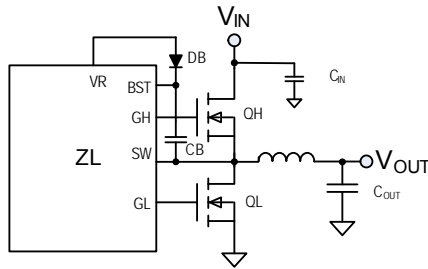

FIGURE 5. Synchronous Buck Converter
Figure 5 illustrates the basic synchronous buck converter topology showing the primary power train components. This converter is also called a step-down converter, as the output voltage must always be lower than the input voltage. In its most simple configuration, the ZL2008 requires two external N-channel power MOSFETs, one for the top control MOSFET (QH) and one for the bottom synchronous MOSFET (QL). The amount of time that QH is on as a fraction of the total switching period is known as the duty cycle *D*, which is described by Equation 1:
Typically, buck converters specify a maximum duty cycle that effectively limits the maximum output voltage that can be realized for a given input voltage. This duty cycle limit ensures that the lowside MOSFET is allowed to turn on for a minimum amount of time during each switching cycle, which enables the bootstrap capacitor (CB in Figure 5) to be charged up and provide adequate gate drive voltage for the high-side MOSFET. See section “High-side Driver Boost Circuit” on page 12 for more details.
The gate drive voltage for the high-side MOSFET driver is generated by a floating bootstrap capacitor, CB (see Figure 5). When the lower MOSFET (QL) is turned on, the SW node is pulled to ground and the capacitor is charged from the internal VR bias regulator through diode DB. When QL turns off and the upper MOSFET (QH) turns on, the SW node is pulled up to VDD and the voltage on the bootstrap capacitor is boosted approximately 5V above VDD to provide the necessary voltage to power the high-side driver. A Schottky diode should be used for DB to help maximize the high-side drive supply voltage.